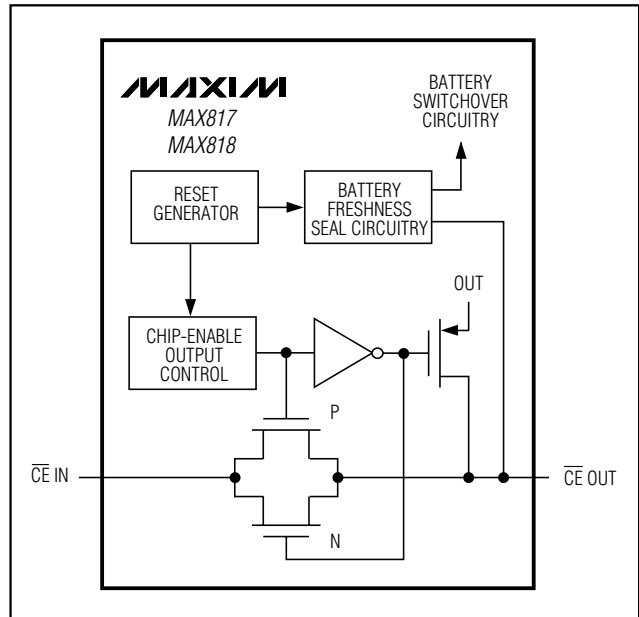

Figure 5. Chip-Enable Transmission Gate
Internal gating of the chip-enable (CE) signal prevents erroneous data from corrupting CMOS RAM in the event of an undervoltage condition. The MAX818 uses a series transmission gate from  $\overline{CE}$  IN to  $\overline{CE}$  OUT (Figure 5). During normal operation (reset not asserted), the CE transmission gate is enabled and passes all CE transitions. When reset is asserted, this path becomes disabled, preventing erroneous data from corrupting the CMOS RAM. The short CE propagation delay from  $\overline{CE}$  IN to  $\overline{CE}$  OUT enables the MAX818 to be used with most  $\mu P$ s. If  $\overline{CE}$  IN is low when reset asserts,  $\overline{CE}$  OUT remains low for typically 15 $\mu s$  to permit the current write cycle to complete.
When the CE transmission gate is enabled, the impedance of  $\overline{CE}$  OUT is equivalent to a  $40\Omega$  resistor in series with the source driving  $\overline{CE}$  IN. In the disabled mode, the transmission gate is off and an active pull-up connects  $\overline{CE}$  OUT to OUT (Figure 5). This pull-up turns off when the transmission gate is enabled.